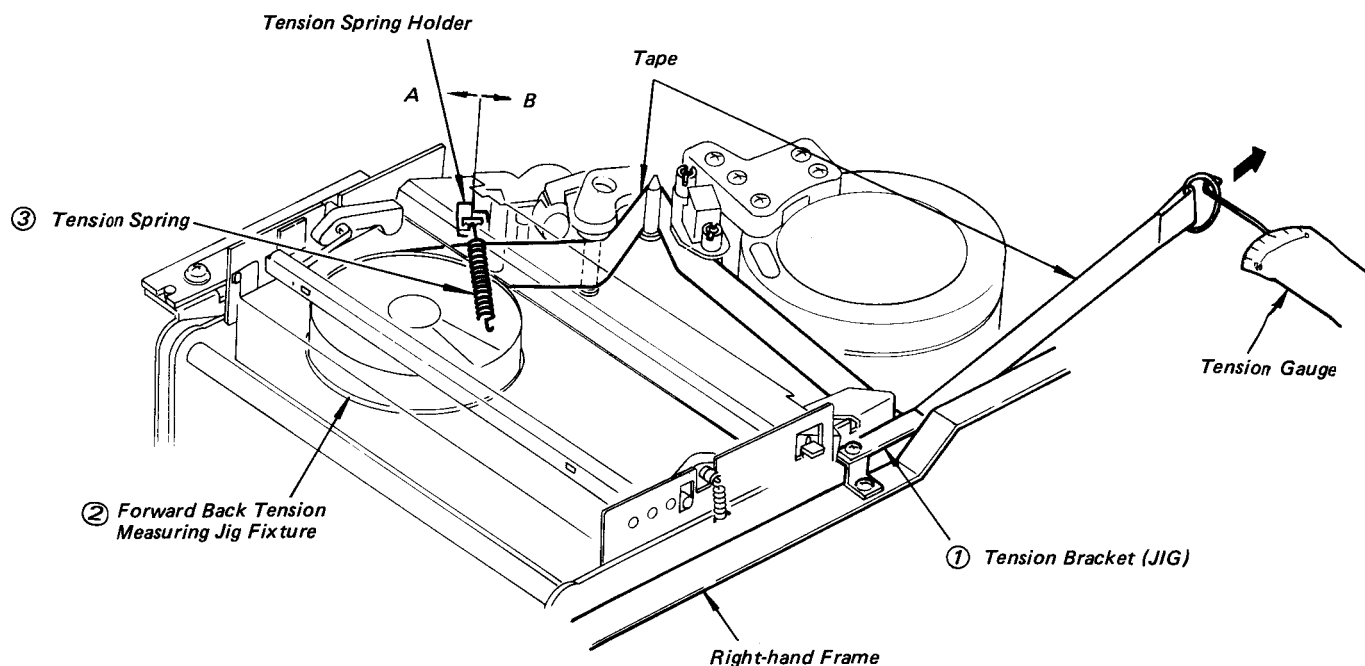

Fig. 5-92 Back Tension Adjustment
29. Checking and Adjusting the Back Tension in Recording and Playback Modes (Fig. 5-92)
4. Mount the playback forward back tension measuring jig fixture ② in position on the supply reel table.
5. Wind the tape as illustrated in Fig. 5-92.